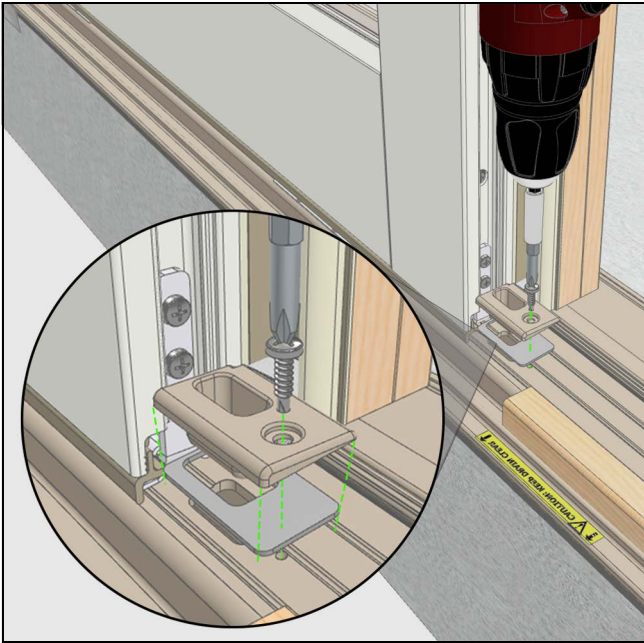

Figure 21
3. Install sill strike using sill color-matched 8-18 x 3/4" pan head screw. See Figure 21.